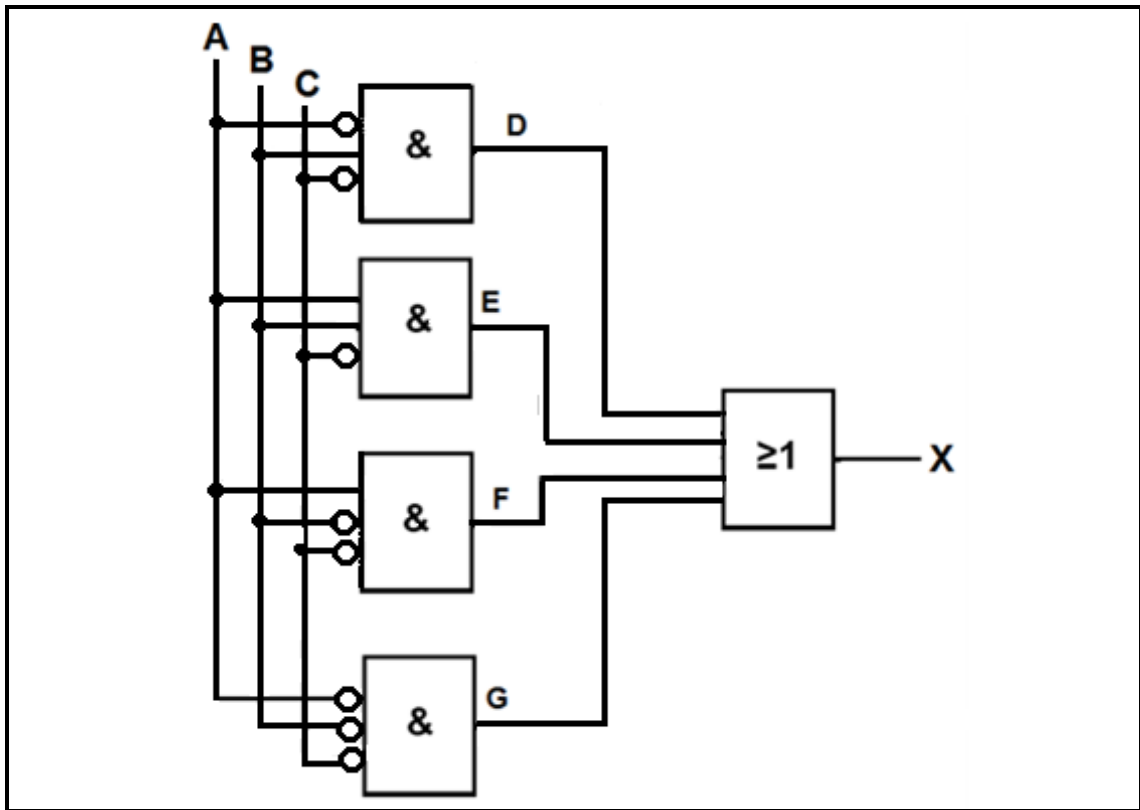

FIGURE 6.3: LOGIC CIRCUIT
6.4 Refer to the circuit in FIGURE 6.3 below and derive the Boolean expression at the following points: